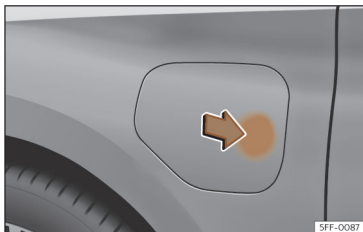

Fig. 59 Opening the charging socket cover.
- With the vehicle unlocked, the battery charging cover opens when the indicated zone is pressed >>> **Fig. 59**.